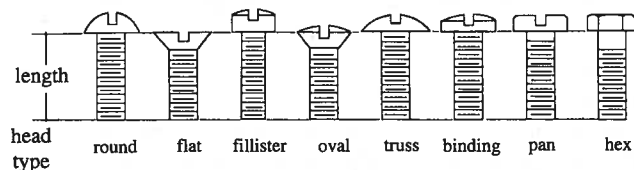

Figure 13. Measuring length of fasteners
3. *Length* of a fastener is measured from its bearing surface to its opposite extremity. It does not designate length of the threaded part or overall length (Figure 13), except in the case of headless set screws.
4. *Type of head* designates one of seven common profiles: round (*button* for large fasteners), flat, fillister, oval, truss, binding, or pan (Figure 13); otherwise, the head will be hexagonal or square in shape. In most museum artifacts dating up to the 1940s, the heads will be either unslotted or slotted; that is, with a straight, parallel-sided vertical slot running across the entire width of the head. Cross-recessed (Phillips) heads appeared in the late 1930s. Set screws will be square-headed and unslotted or headless and slotted/recessed.